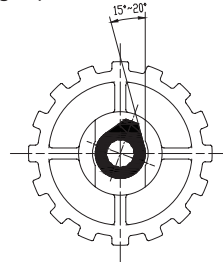

fig.3A
6. Put on stop knob at 15 degree angel. (see fig.3A)